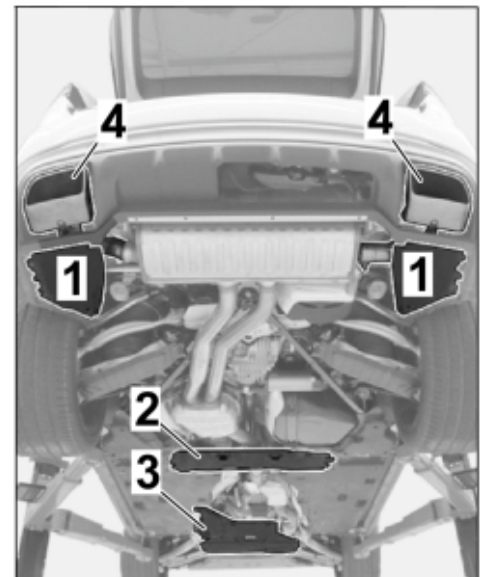

Figure 8
1.5.1 Remove the rear underbody cover and rear tunnel cover (⇒ *Figure 8 -1 and 2-*). ⇒ *Workshop Manual '519419 Removing and installing rear underbody cover'*
1.5.2 Remove the front underbody cover (rear section) (⇒ *Figure 8 -3-*). ⇒ *Workshop Manual '51921900 Removing and installing front underbody cover'*
1.5.3 Remove the tailpipe (left/right) (⇒ *Figure 8 -4-*). ⇒ *Workshop Manual '263419 Remove and install tailpipe - T9I'*